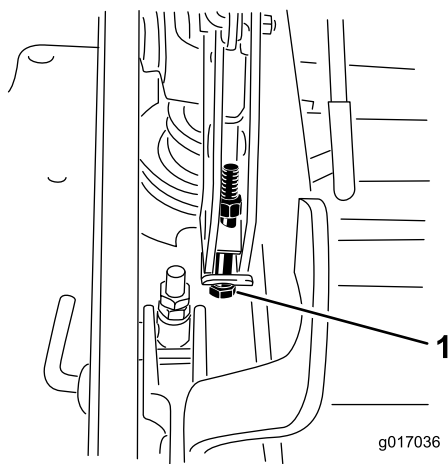

Figure 95
13. If the deck is too low, tighten the single-point-adjustment bolt by rotating it clockwise. If the deck is too high, loosen the single-point-adjustment bolt by rotating it counterclockwise (Figure 95).